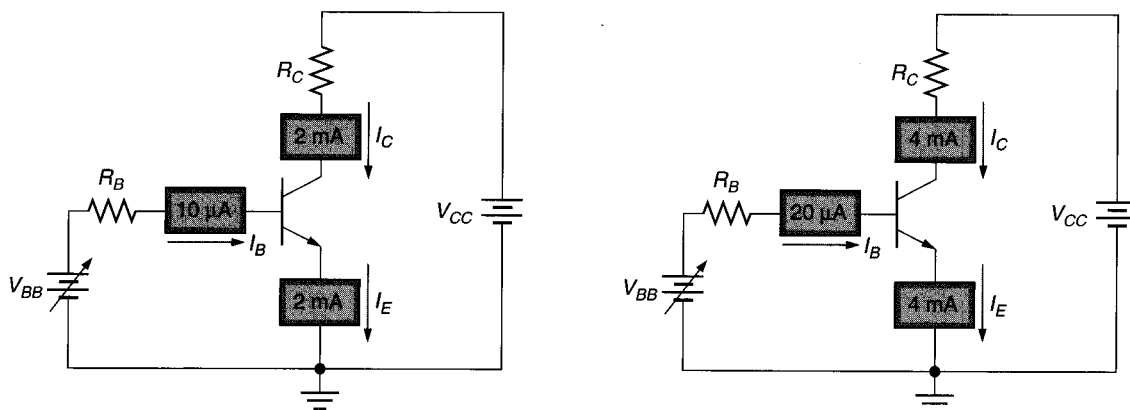

FIGURE 6.10 BJT current relationships.
**OBJECTIVE 4** ► As you know, the transistor is a current-controlled device. In many applications, the base current is varied to produce variations in  $I_C$  and  $I_E$ . Because of the construction of the component, a small change in  $I_B$  results in a larger change in the other terminal currents. This relationship is illustrated in Figure 6.10. As you can see, the small increase in base current (from 10  $\mu\text{A}$  to 20  $\mu\text{A}$ ) produces a larger increase in  $I_C$  and in  $I_E$  (from 2 mA to 4 mA). The larger increase in the emitter and collector currents is due to the current gain of the transistor. This point is illustrated in Example 6.1.